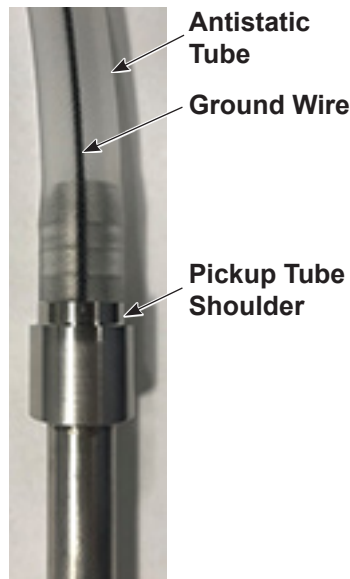

Figure 4 Install Antistatic Tube onto Pickup Tube
2. See Figure 4. Push the tubing onto the pickup tube barb all the way so the internal ground wire of antistatic tubing contacts the flange shoulder on the pickup tube.